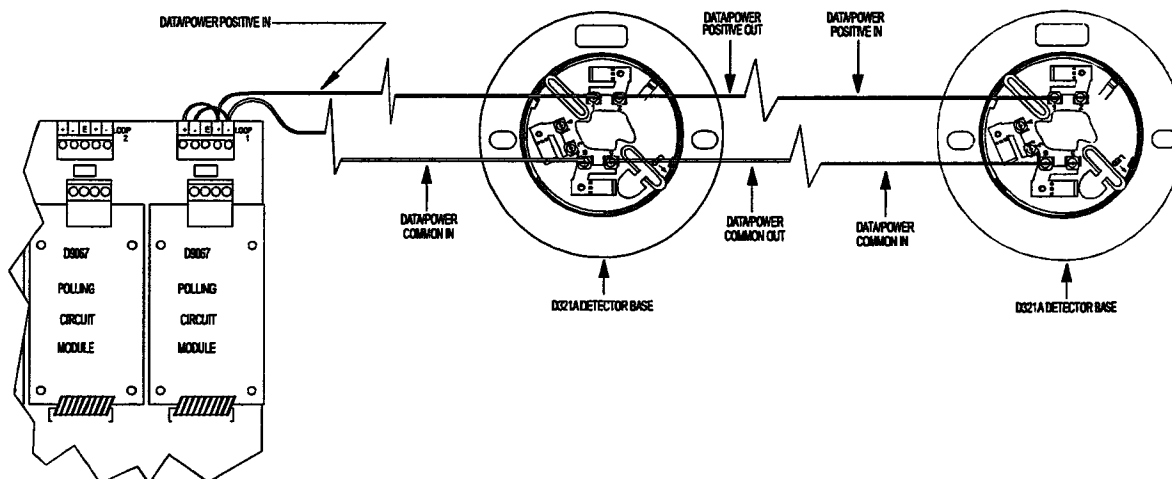

Figure 4: D9067 Class B, Style 4 Circuit
- Connect the positive and negative terminals of the Data Terminal Block with jumper wires as shown in Figure 4.